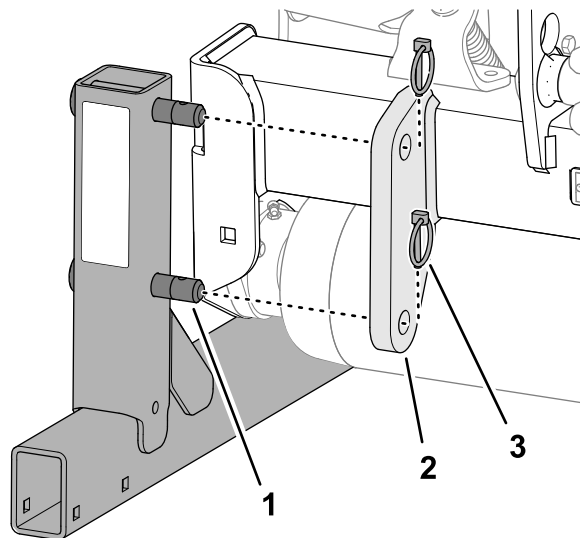

Figure 20
2. Remove the 2 lynch pins securing the storage stand to the stand bracket on the hitch frame of the machine (Figure 20).
5. Insert the lynch pins (included in loose parts) into the stand pins for storage (Figure 20).